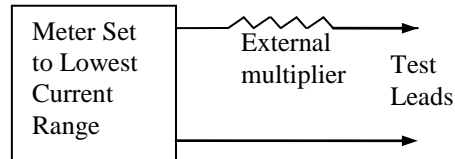

Figure 2.11: Extending voltage range
1. The range of a voltmeter can be extended to measured high voltages, by using a high voltage probe or by using an external multiplier resistor as shown in figure 2.11.